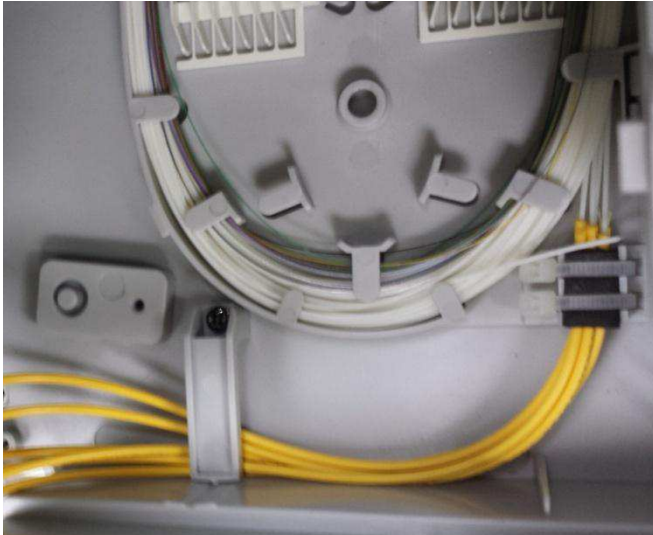

Figure 26
- 1.6.4 Remove the cord cover to the entrance of the splice tray with a suitable tool and accommodate the fibers reserve in the splice tray. Wrap the fibers with the foam and pass the cable ties. Accommodate the fibers. (Fig.26);